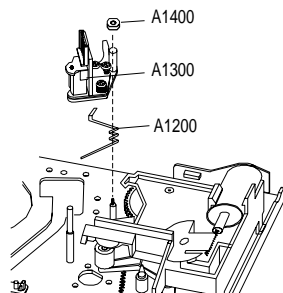

Fig. 4
- Measure the height of the A/C head bottom where the spring (Pos. A1200, Fig. 4) is hooked in, above the mechanism chassis using a slide gauge and note down the measured value.
- Unscrew the nut (Pos. A1400, Fig. 4).
- Remove the A/C head and the spring (Pos. A1300 / A1200, Fig. 4).
- Set the height of the A/C head bottom to the measured value using the nut (Pos. A1400, Fig. 4).